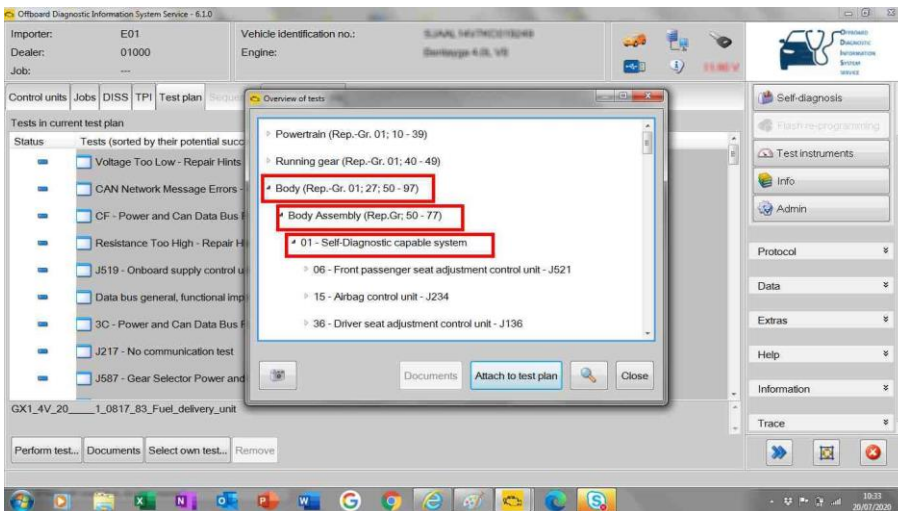

Figure 3
- Select “Body (Rep.-Gr.01,27,50-97)” – Figure 3.
- Select “Body Assembly (Rep.Gr,50-77)” – Figure 3.
- Select “01 – “Self-Diagnostic capable system” – Figure 3.